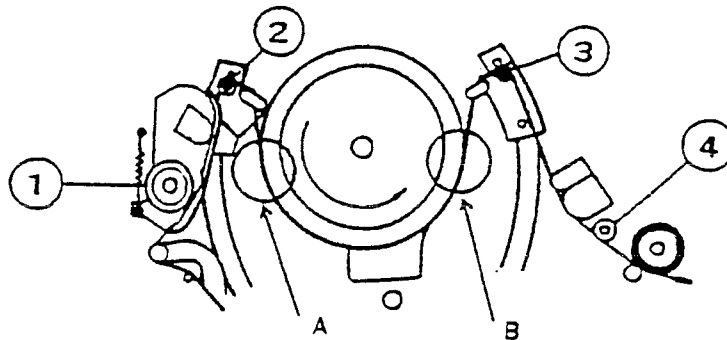

Fig. 2-1
2. Load a blank tape and set the VCR to the PLAY mode. Check the tape transport at points "A" and "B" as shown in Fig. 2-1.